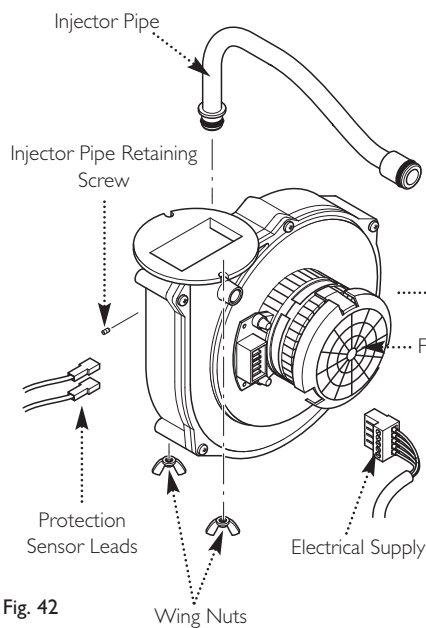

Fig. 42
a) Disconnect the electrical leads to the fan component protection sensor (Fig. 42).
b) Loosen the screw retaining the gas injector pipe at the venturi (Fig. 42).
c) Undo the two wing nuts to disconnect the fan (Fig. 42).
d) Remove the fan and disconnect the electrical supply to it (Fig. 42).
e) Remove the gas injector pipe from the gas valve (push-fit) (Fig. 42).